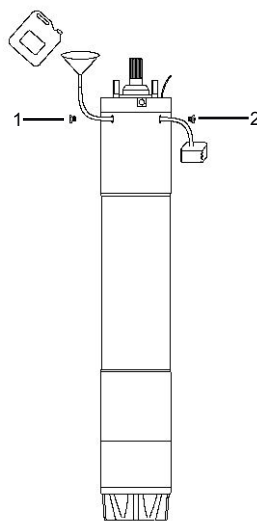

Figure 5-1: Correct way to fill the motor
1. Place the motor vertically with the top of the motor upwards, see fig. 5.1